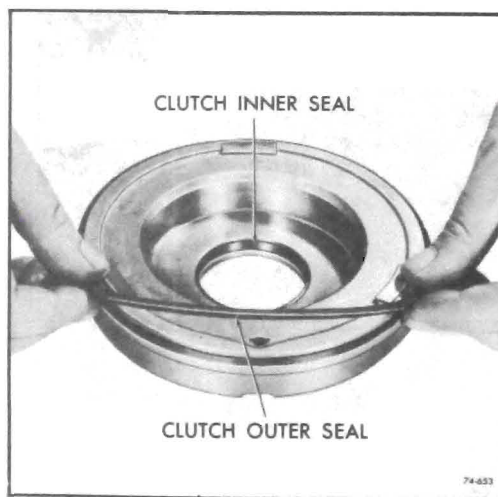

Figure 76-653
9. Remove inner and outer clutch piston seals. See Figure 76-653.
1. Place new inner, and outer oil seals on clutch piston, lips face away from spring pockets. See Figure 76-653.